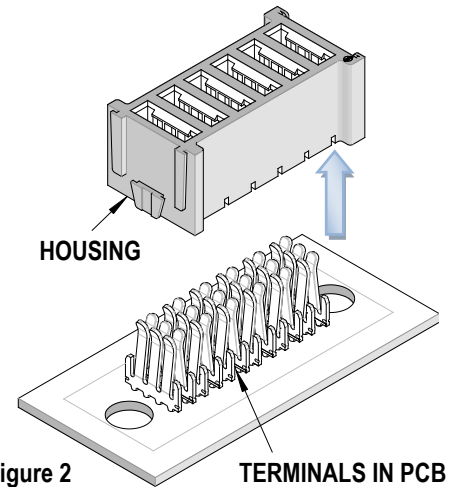

Figure 2
1. Remove the vertical receptacle housing using Molex tool 62100-7720. The terminals will be exposed as shown in Figure 2.